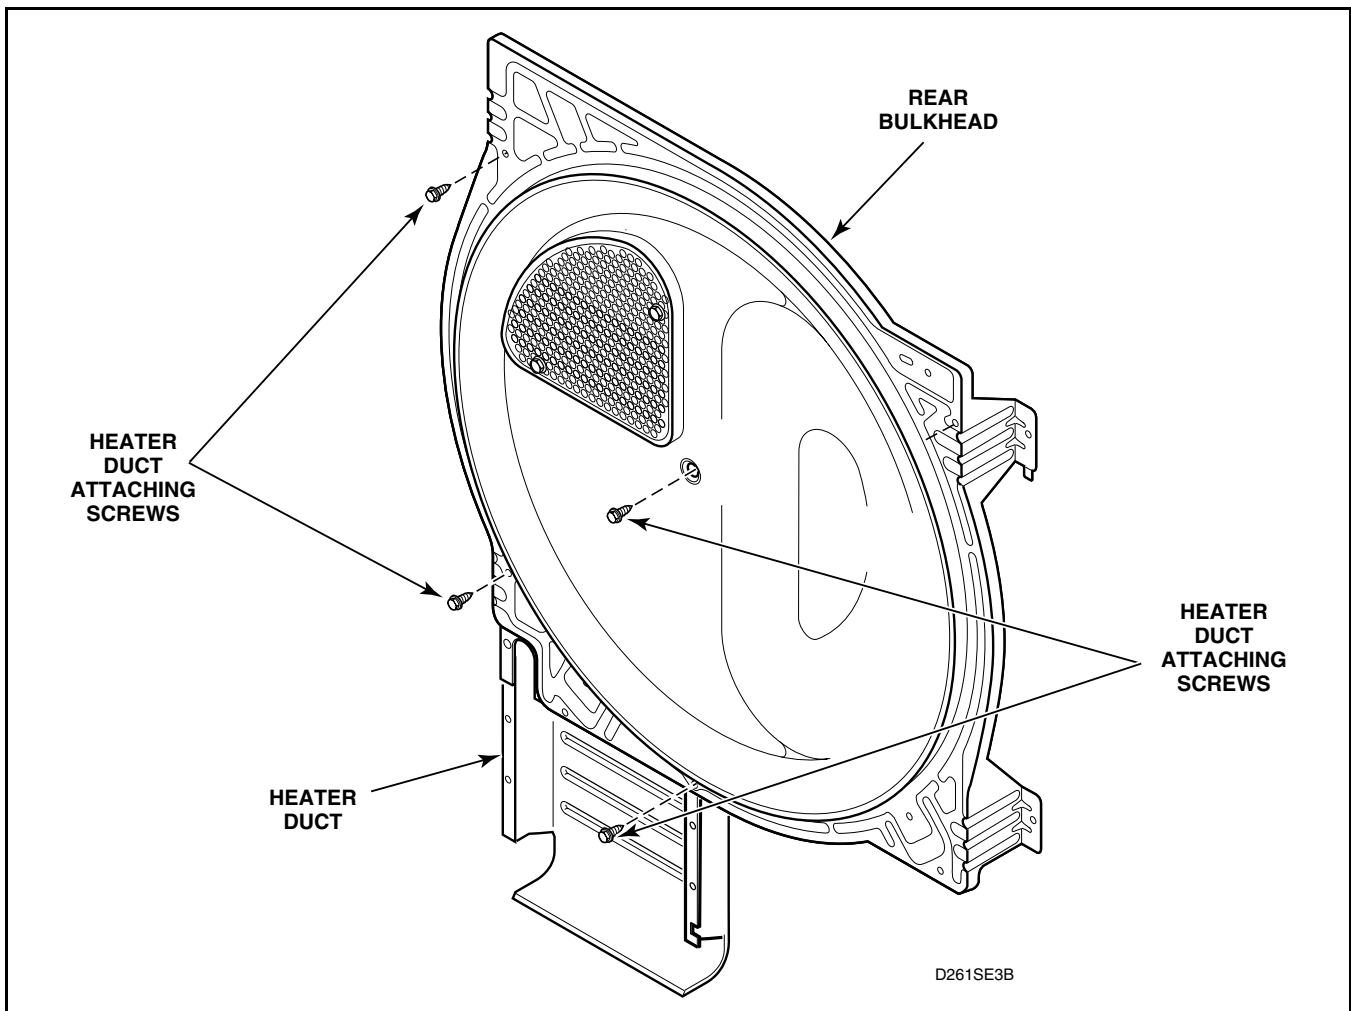

Figure 34
- (5) Remove heater duct from rear bulkhead. Refer to *Figure 34*.
- k. To remove heater duct from rear bulkhead. Refer to *Figure 34*.